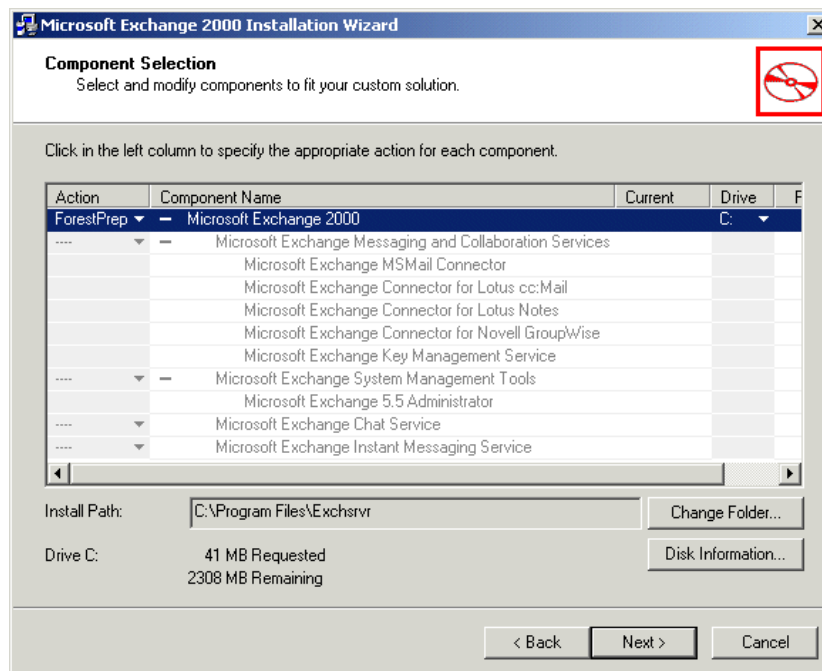

Figure 4-1 Running ForestPrep
4. Type the license number and click **Next**. You will see a window similar to Figure 4-1.